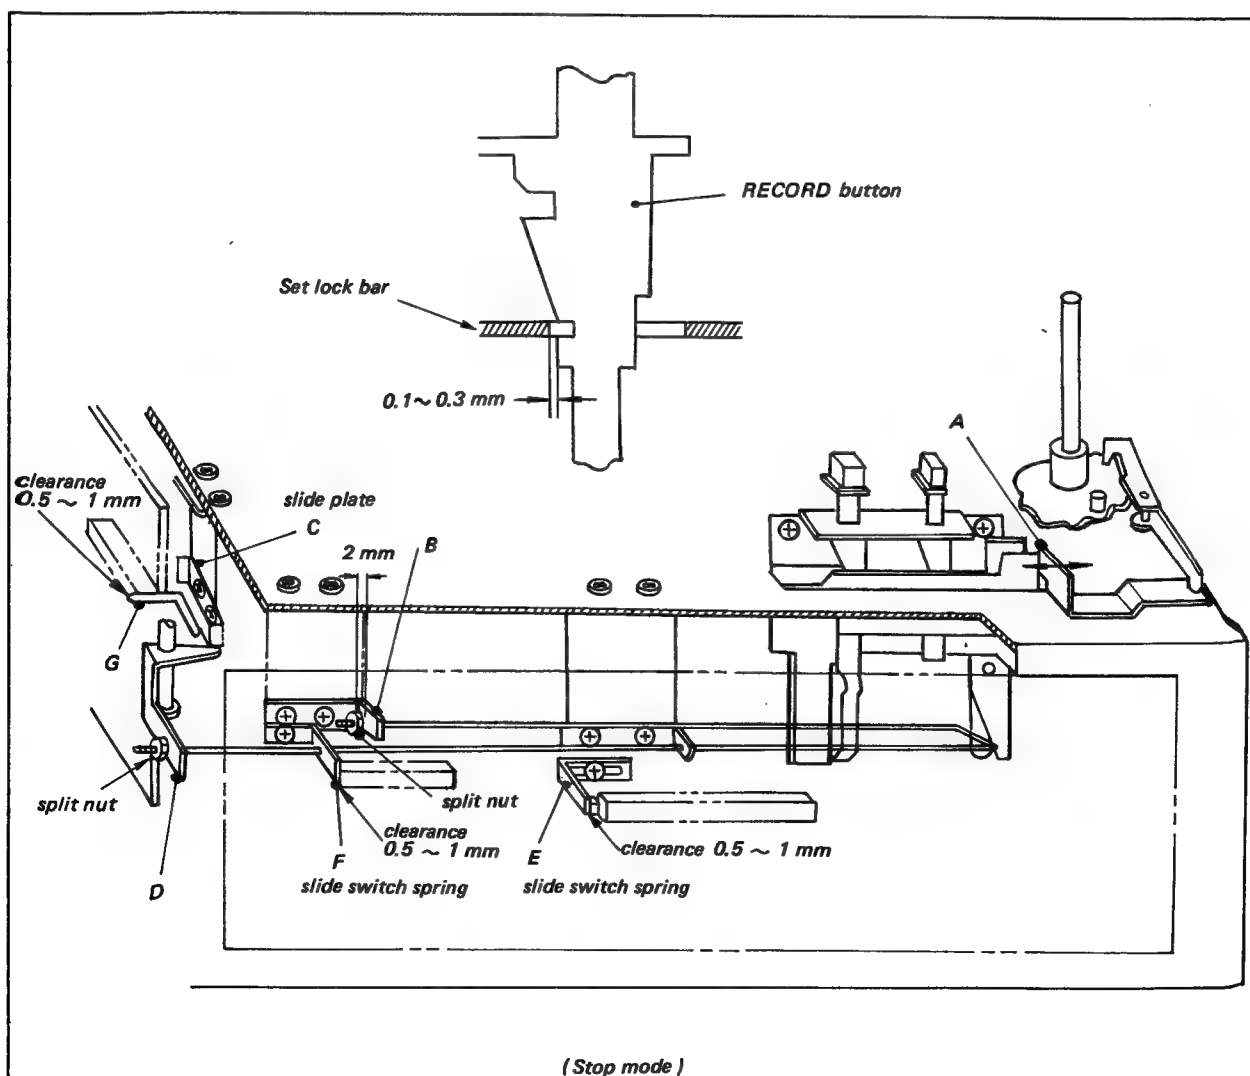

Fig. 4-19. RECORD button latching mechanism and adjustment
3. Make sure that the Record Button is clear of the Audio Set Lock Bar. Clearance should be between 0.1 and 0.3 mm. Bend "A" with a pair of pliers as needed to obtain the correct spacing. Refer to Fig. 4-19.